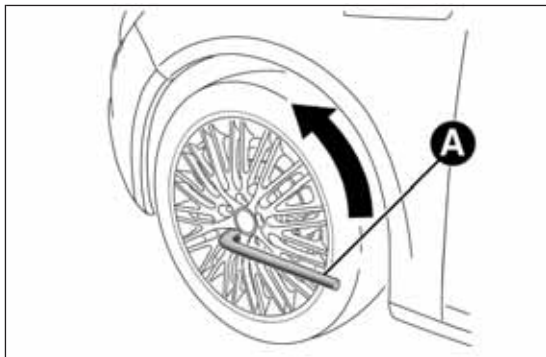
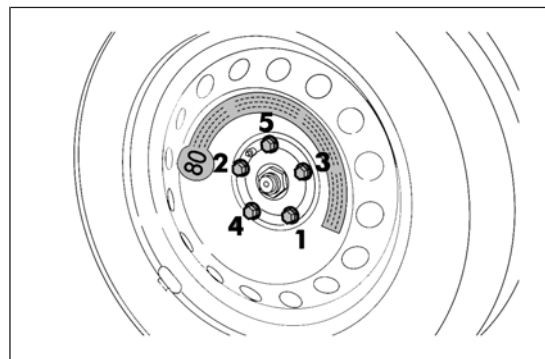

fig. 123
fig. 126
- take the wrench A fig. 123 and loosen the fixing bolts by about one turn. For versions with alloy rims, shake the car to facilitate detachment of the rim from the wheel hub;
- take the wrench A fig. 123 and fully tighten the fixing bolts;
- use the wrench A fig. 123 provided to fully tighten the bolts in a criss-cross fashion as per the numerical sequence illustrated in fig. 126;
- tighten the retaining bolts using wrench A fig. 123;
- use wrench A fig. 123 to fully tighten the bolts, following the sequence shown in fig. 126